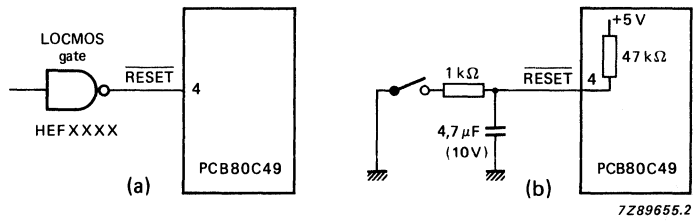

Fig. 10(a) External reset circuit; (b) power-on reset.
**$\overline{RESET}$  input (see Fig. 10)**